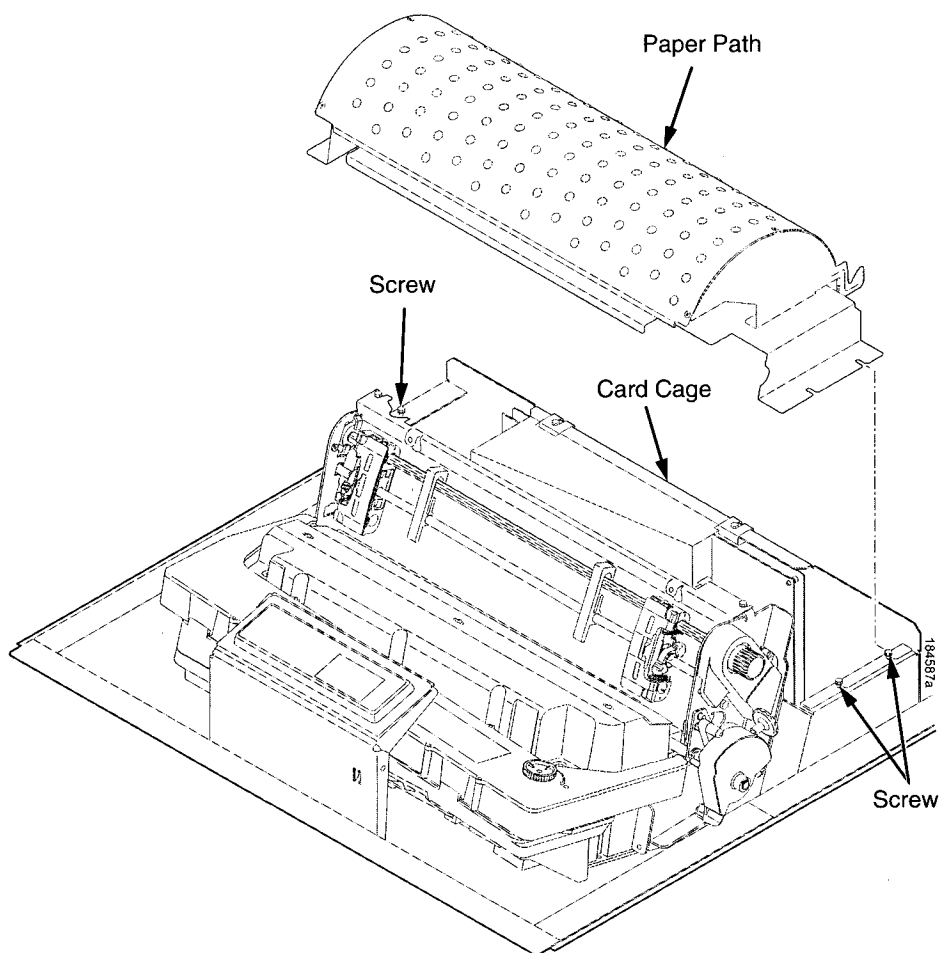

**Figure 83. Removing the Stacker Assembly**
15. Slide the stacker assembly slightly to the right to clear the air exhaust duct. Tilt the vertical rails toward the front of the printer until they clear the upper frame cross-member. Grasping the stacker assembly by the vertical rails, lift and slide it to the rear and angle it out of the cabinet, as shown in Figure 83.